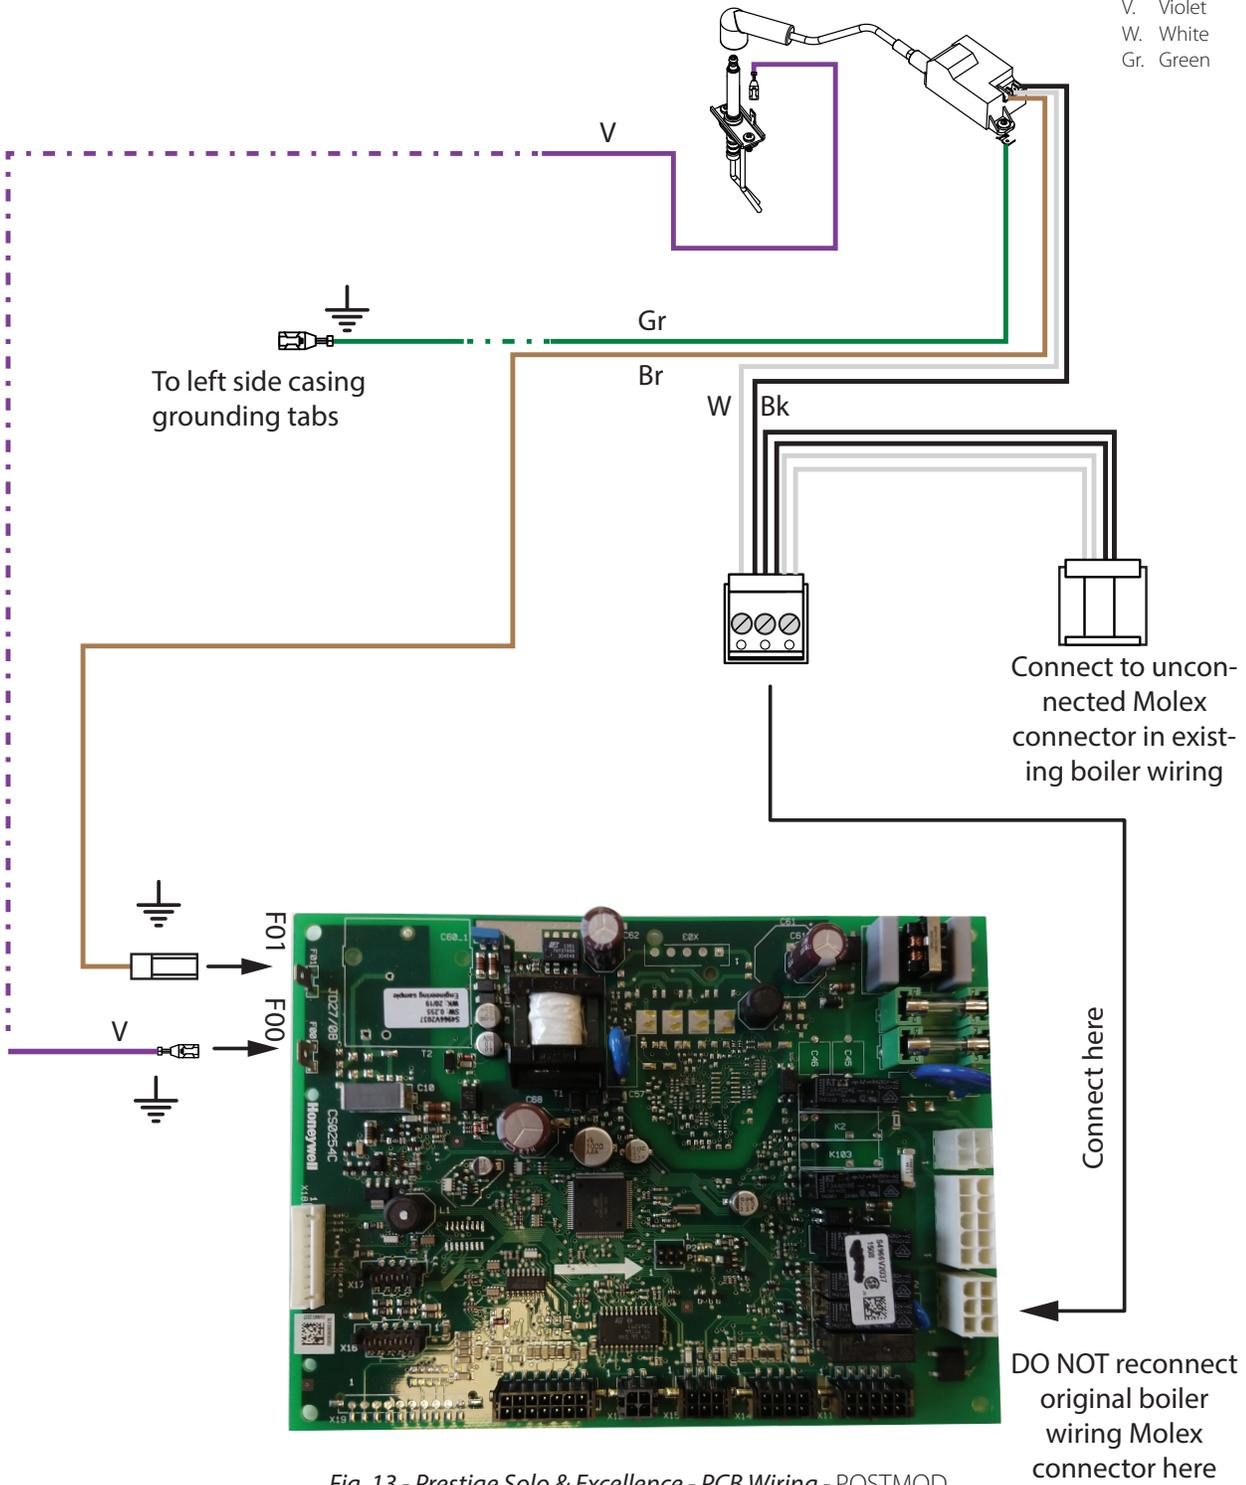

Fig. 13 - Prestige Solo & Excellence - PCB Wiring - POSTMOD
1.5.10 Wiring Connection (See Fig. 13)
3. Connect new brown cable to ignition transformer and to control module grounding tab F01. See Fig. 13.